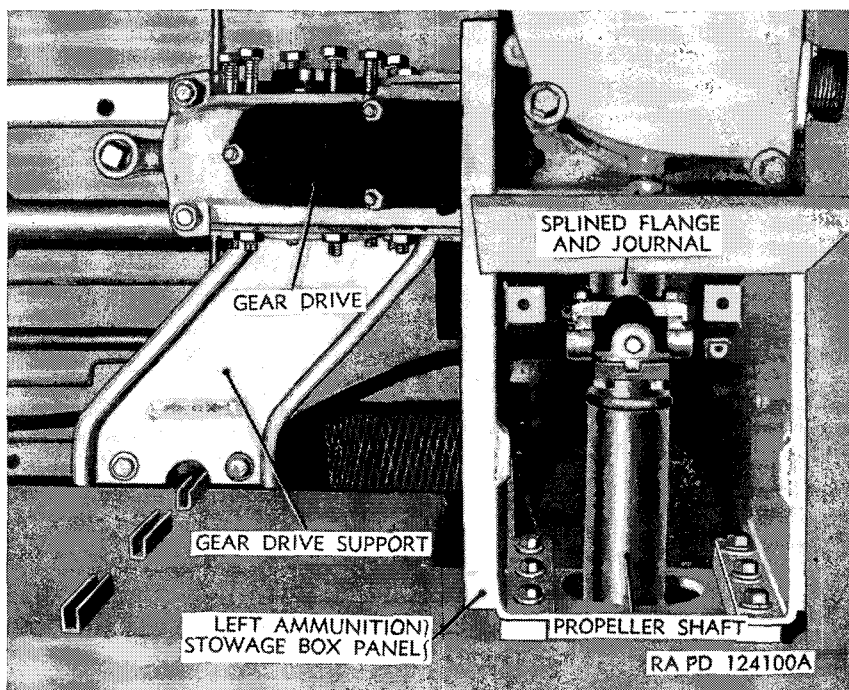

Figure 31. Hydraulic-pump gear drive installed.
Note. All the openings and holes referred to in this paragraph, except the $3\frac{1}{2}$ -inch diameter hole in the rear bulkhead, are shown in figure 31.
g. Position the gear-drive support and secure it to the floor support (fig. 31) with two bolts, nuts, and lock washers, and to the mounting-plate support with two bolts and lock washers.
Note. The unsupported high side of the gear-drive case will project through the opening cut in the left-ammunition-stowage-box panel (fig. 31).